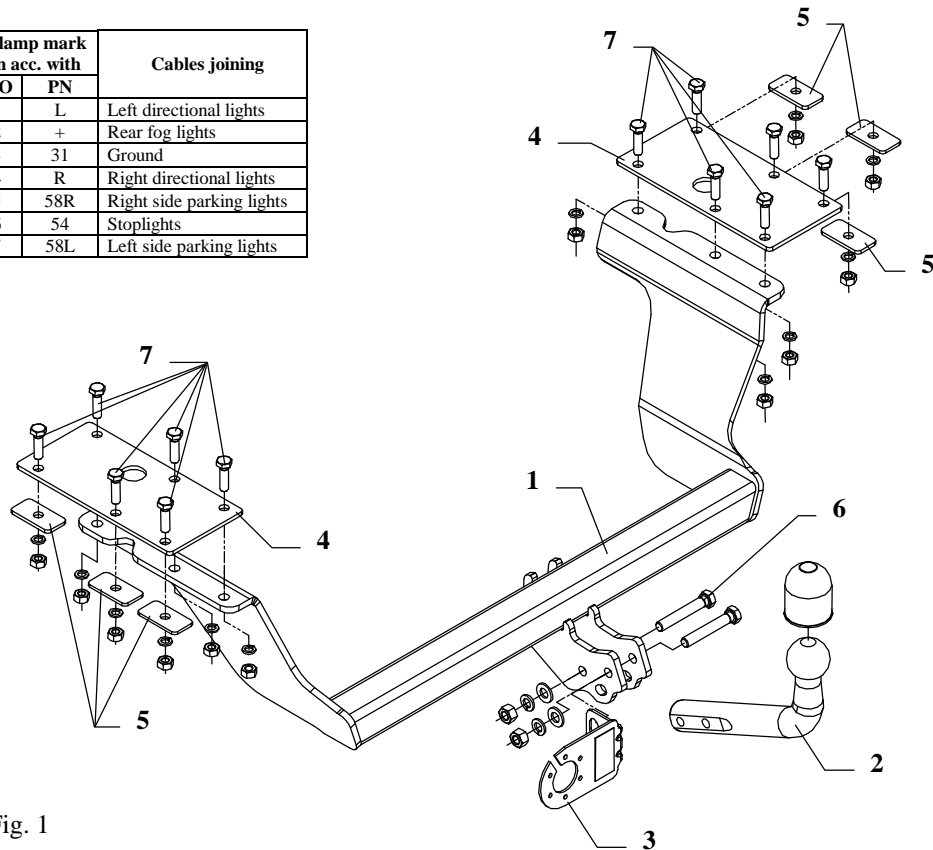
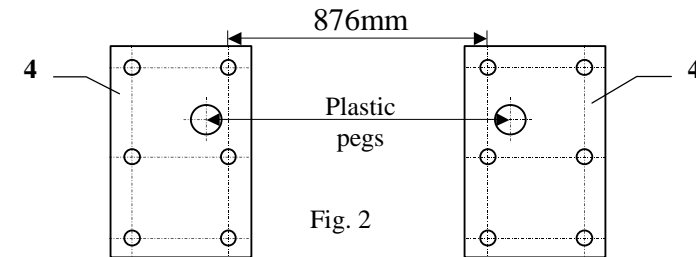

Fig. 1
Fig. 2
2. On plastic pegs (to which one pins the fitted carpet) put fish-plates (pos. 4) as showed on the fig. 2. Then through all holes drill holes $\varnothing 11\text{mm}$.
3. Through ready made holes put bolts M10x35mm (pos. 7).
4. From the bottom of the car, apply (on protruding bolts) the main bar of the towbar (pos. 1) and fix as showed on the fig. 1.